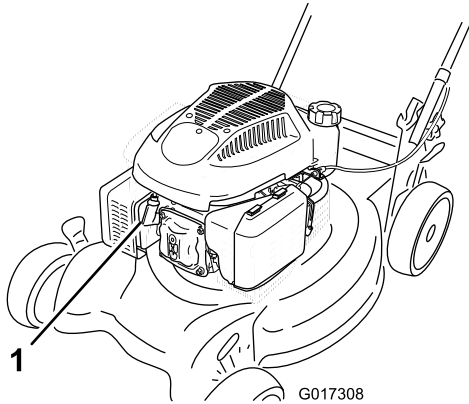

Figure 34
2. Disconnect the spark-plug wire from the spark plug (Figure 34) before performing any maintenance procedure.